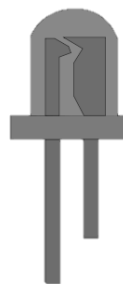

Figure 7
- i. Label and name the leads of the LED shown in Figure 7.